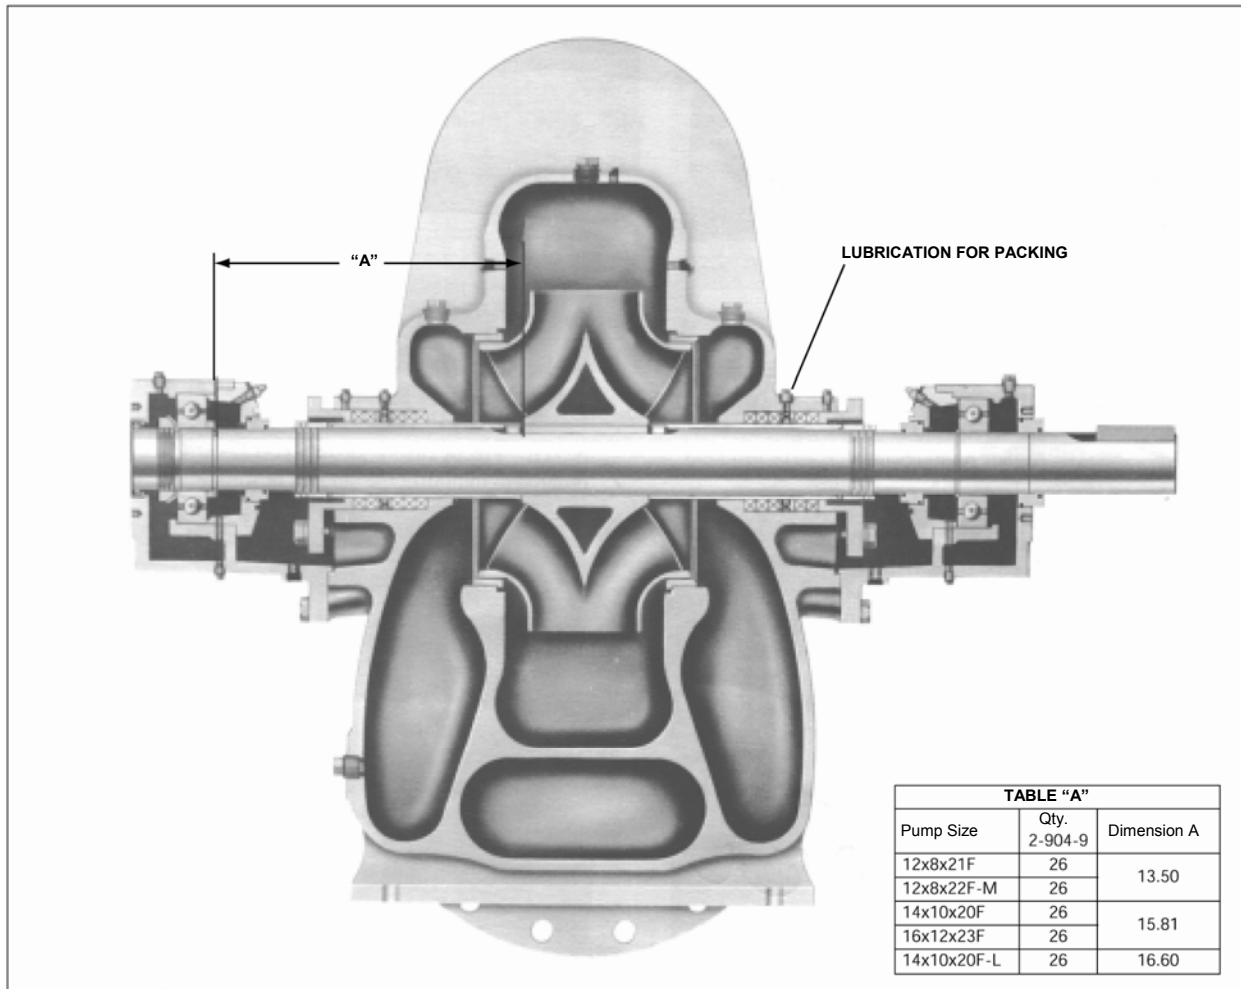
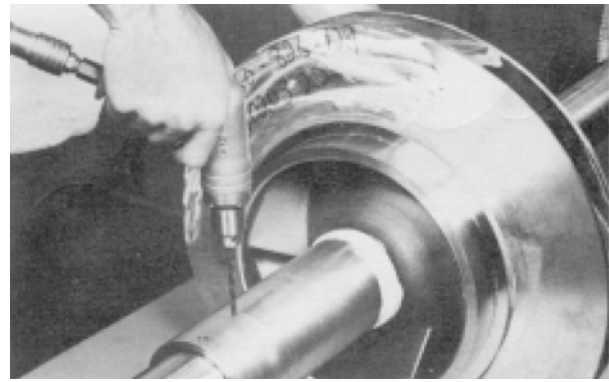

FIGURE 12 - ASSEMBLY SECTION: PUMP WITH PACKING
FIGURE 15 - DRILLING SET SCREW RECESS
1. Place impeller key (3-911-1) in shaft (3-007-0).
2. Check the impeller (4-002-0) and casing to determine the correct impeller rotation (See Figure 10) and locate the impeller on the shaft per dimension "A". (See Figure 12)
6. Place the sleeve O-ring (3-914-9) onto the shaft, into the sleeve counterbore. Verify that Dimension "A" (Figure 12) is maintained, then using a pin spanner wrench and hammer, securely tighten the shaft sleeve nuts (3-015-9). Then, drill a shallow recess in the shaft through the set screw hole in each of the shaft sleeve nuts. Lock each shaft sleeve nut in position with cup point set screws (3-902-9). (See Figure 15) A low strength sealant, such as Loctite 271, can be used to retain set screws.
25. Assemble seal water lines (0-901-0, 0-950-0, 0-952-0) to stuffing box and casing. Seal water lines go to inside holes. (See Figure 12)